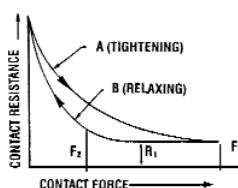

Fig. 2
**Effect of Creep:** Figure 2 shows typical curves of total contact resistance plotted against total contact force. Curve A shows how the contact resistance continually decreases with increasing contact force. When the full contact force  $F_1$  is reached, the contact resistance reaches the low value of  $R_1$ . In general, the full tightening force on a connector greatly exceeds the maximum force for which there is no appreciable creep. Therefore the force will gradually settle down to a value after which there will be no further significant creep. Fortunately, however, the resistance does not climb back up along curve
**Relaxation:** Relaxation of pressure due to creep, or for any other reason, would be a much more difficult factor in a pressure connection were it not for the relationship of contact pressure to contact resistance on the relaxation curve as shown in Figure 2. It is frequently observed that some time after the bolts of a clamp type connector are tightened, the bolt tensions are relaxed appreciably. The question arises as to whether it is necessary to retighten the bolts to the original torque value. In a properly designed connector, retightening is unnecessary since the contact resistance should increase very little due to the relaxation of pressure, as shown by the relaxation curve of Figure 2.
resilience, to assure that the contact force cannot relax beyond the point where contact resistance begins to rise appreciably, as shown in Figure 2.